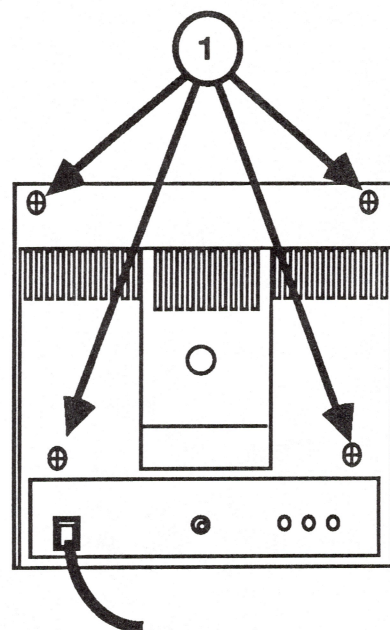

FIGURE 2
5. Remove the four screws (Figure 2, #1) from the back of the monitor.